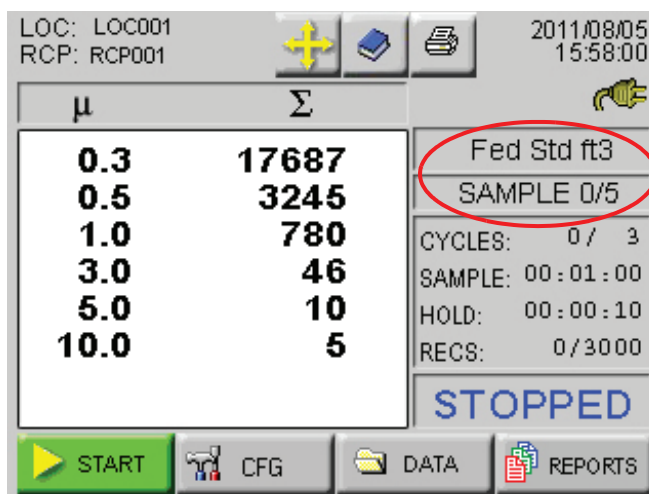

Figure 4-66 Reports Data
- When the reports mode is enabled, the currently selected report type and minimum required samples will be displayed on the MAIN screen as shown in Figure 4-66.